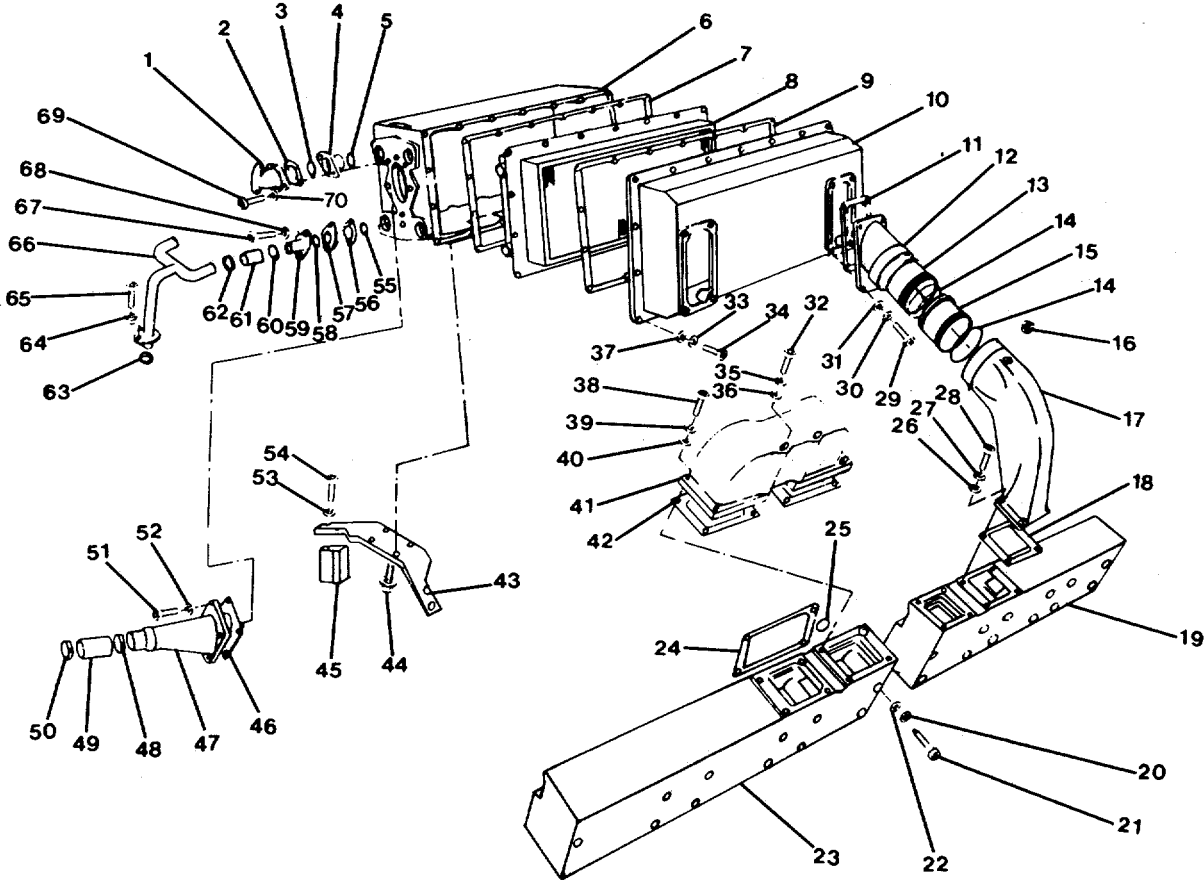

FIGURE 2-52. Air Intake Manifold Group.
- (1) Remove four machine bolts (28, FIG. 2-52), lockwashers (27), and flat washers (26) from each of four air crossover connections (17).
- (2) Remove air crossover connection (17), pipe plug (16) and gasket (18) from intake air manifold (19). Discard gasket.
- (3) Remove metallic tube (15) from plain seal (13) and air crossover connection (17). Remove and discard two preformed packings (14).
- (10) Remove 12 hexagon head capscrews (21, FIG. 2-52), lockwashers (20), and flat washers (22).
- (11) Remove intake air manifold (19 or 23), rubber bushing (25), and intake manifold gasket (24). Discard bushing and gasket.
- (1) Remove air cleaner group (paragraph 2-18).
- (2) Remove four machine bolts (29, FIG. 2-52), lockwashers (30), and flat washers (31).
- (3) Remove air crossover connection (12) and preformed packing (11). Discard preformed packing.
- (4) Loosen retaining clips (48 and 50) on nonmetallic hose (49) connecting aftercooler to turbocharger. Remove hose.
- (5) Remove two hexagon head capscrews (65), lockwashers (64), four machine bolts (67), and lockwashers (68) from the water transfer housing (66).
- (6) Remove water transfer housing (66) and preformed packing (63). Discard preformed packing.
- (7) Loosen hose clamps (60 and 62). Remove nonmetallic hose (61), water transfer connection (59), preformed packing (58), adapter connector (57), and preformed packing (56 and 55). Discard preformed packings.
- (8) Remove hexagon head capscrews (51) and flat washers (52). Remove air crossover connection (47) and gasket (46). Discard gasket.
- (9) Remove four hexagon head capscrews (69) and lockwashers (70).
- (10) Remove water outlet connection (1), preformed packings (2 and 3), adapter connection (4), and preformed packing (5). Discard preformed packings.
- (11) Remove 18 hexagon head capscrews (34), lockwashers (33), and flat washers (37) from each aftercooler housing cover (10). Remove aftercooler housing cover (10) and aftercooler gasket (9). Discard gasket.
- (12) Remove radiator core (8) and aftercooler gasket (7). Discard gasket.
- (1) Position mounting spacers (45, FIG. 2-52) and aftercooler brackets (43). Install eight lockwashers (53) and hexagon head capscrews (54). Tighten to 70 ft-lb (95 N•m).
- (2) Position aftercooler housing (6) on aftercooler brackets (43). Install eight assembled washer screws (44). Tighten to 45 ft-lb (60 N•m).
- (3) Install aftercooler gasket (7), radiator core (8), aftercooler gasket (9) and aftercooler housing cover (10).
- (4) Install 18 flat washers (37), lockwashers (33) and hexagon head capscrews (34) in each aftercooler housing cover (10). Tighten capscrews to 20 ft-lb (25 N•m).
- (1) Position intake manifold gasket (24, FIG. 2-52), rubber bushing (25), and intake air manifold (19 or 23).
- (2) Install twelve flat washers (22), lockwashers (20), and hexagon head capscrews (21). Hand tighten capscrews.
- (7) Position two preformed packings (14, FIG. 2-52) and plain seal (13) on metallic tube (15). Lubricate seal with clean engine lube oil. Install tube (15) on air crossover connection (12).
- (8) Install air crossover connection (17) non-metallic tube (15). Push connection on tube as far as possible. Install pipe plug (16).